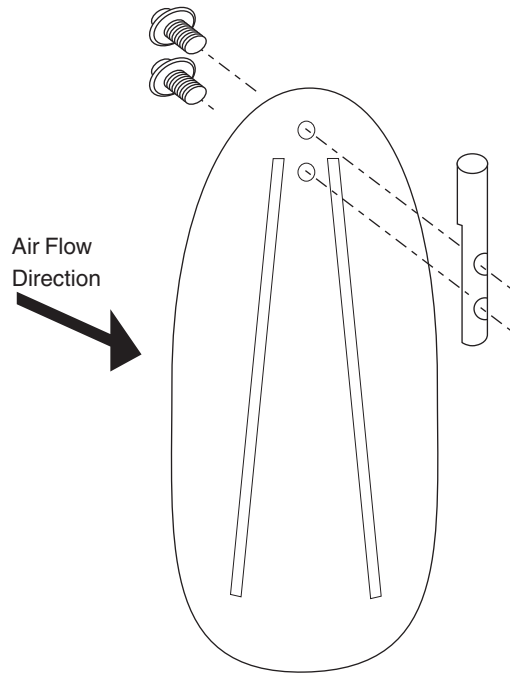

Fig. 1. Typical Paddle Arrangement
- Care must be taken to properly orient the device for the direction of the air flow.(fig.1)